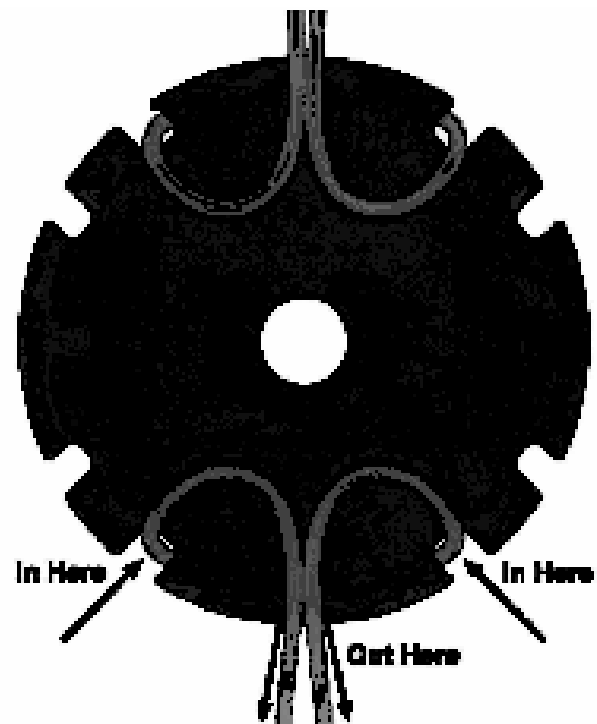

Figure 10
1. Insert the ends of the cords into the openings in the line plate, as shown in Figures 10 and 11. There are different sized arrows at the insertion points to indicate what size cords fit the holes.